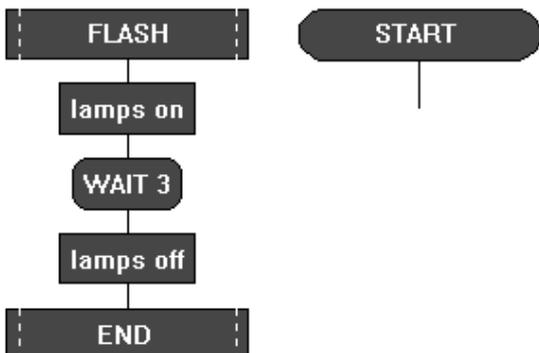

Fig 4.2. This macro, called FLASH will switch on selected lamps for 3 seconds and then switch them off.
2. Use other commands as normal to create the macro. Place an END command at the end of the macro as shown in fig 4.2.